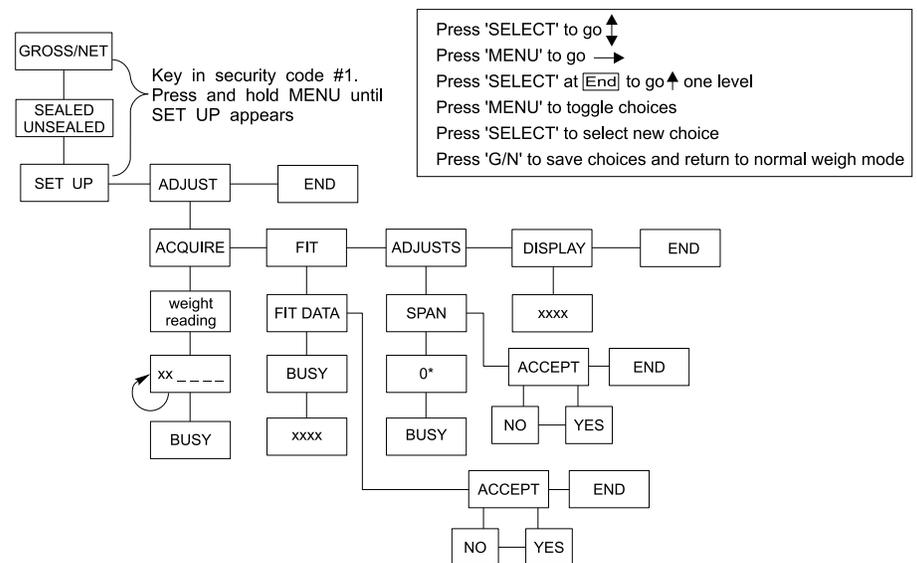

Figure 7
1. Set the WI-125 indicator to read in one pound divisions by following the steps shown in Figure 7. **Remember to reset divisions to five pound increments when finished.**